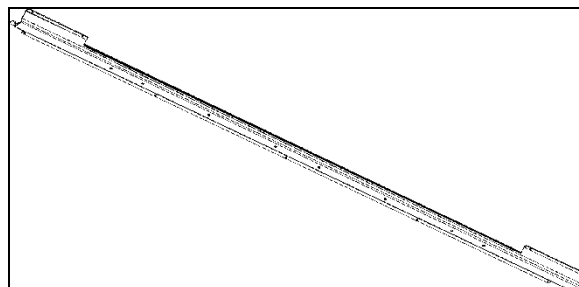

FIGURE 85: LED INDIRECT LIGHTING IN OVERHEAD COMPARTMENT
2. Using a Phillips head screwdriver, unscrew and remove the existing LED strip (FIGURE 85).